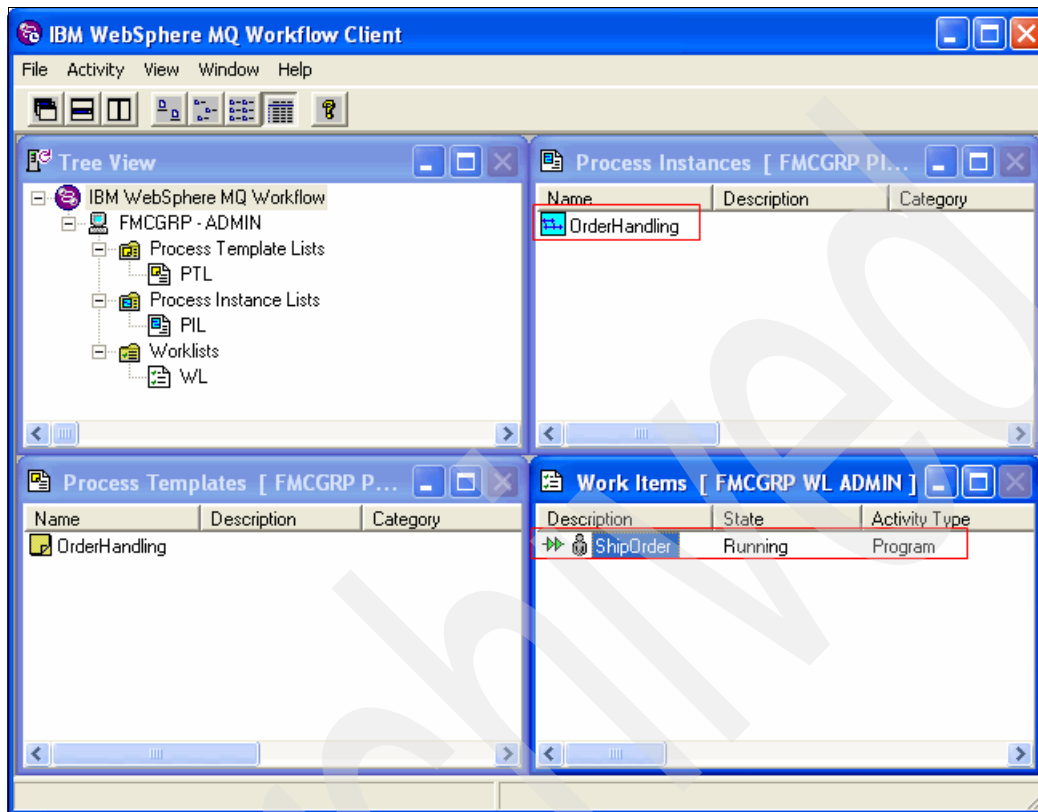

Figure 8-144 Process instance and work item are created
9. A process instance and work item are created. Refresh the Process Instances and Work Items window (Figure 8-144) to view them.